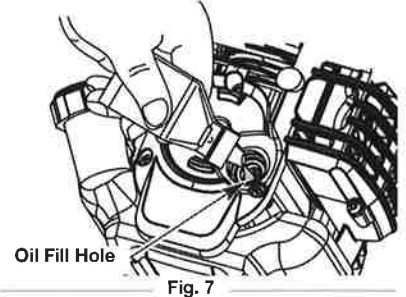

Fig. 7
- Pour the entire bottle of oil into the oil fill hole (Fig. 7).